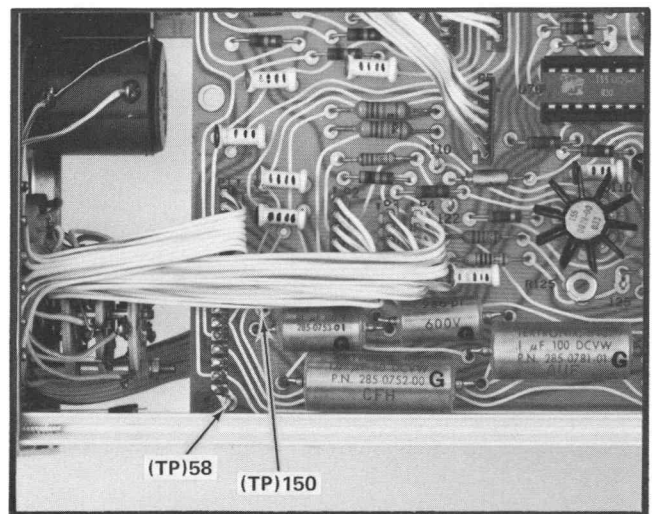

Fig. 2-2. Location of TP58 and TP150.
Spare (7)—Spare connector is bused through to the rear connector, A2, and appears at a test point, TP58 (see Fig. 2-2).
Spare (G)—Spare connector is bused through to the rear connector, A8, and appears at a test point, TP150 (see Fig. 2-2).